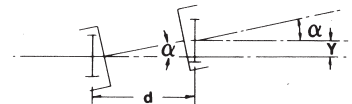

FIG. 6
2. Fig. 6 shows a double engagement coupling of two meshes each having $\pm 2\alpha^\circ$. If the distance between meshes is "d", then the maximum parallel offset "Y" is equal to: